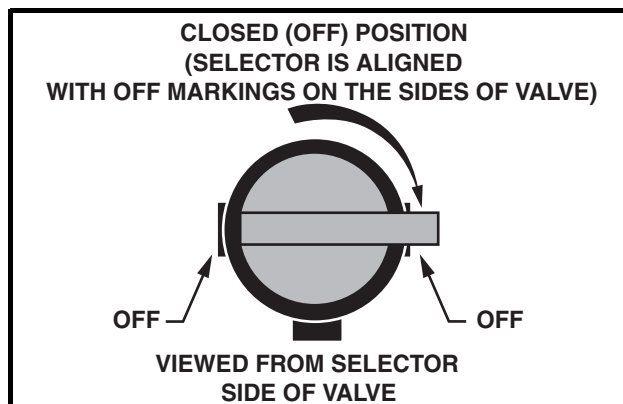

Figure 16 Fuel Shut-off Valve – Closed Position
- Gasoline vehicles only: Turn the fuel shut-off valve to the closed (OFF) position (Figure 16, Page 28).
- Turn the fuel shut-off valve to the closed (OFF) position (Figure 16).
- 2.1. Place the Forward/Reverse handle in the NEUTRAL position. Turn the fuel shut-off valve to the closed (OFF) position (**Figure 16, Page 28**) and run the engine until fuel remaining in the carburetor and fuel lines is depleted and the engine stalls.
- Turn the fuel shut-off valve to the closed (OFF) position (Figure 16, Page 28).